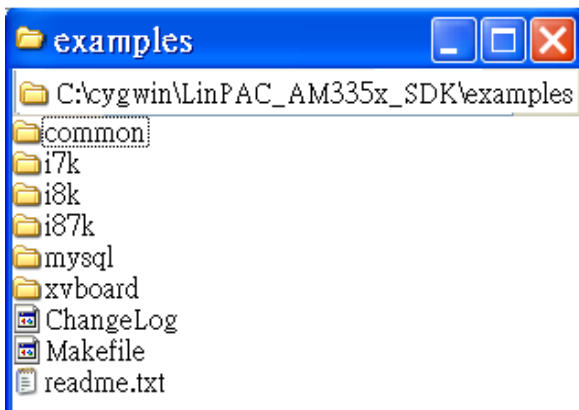
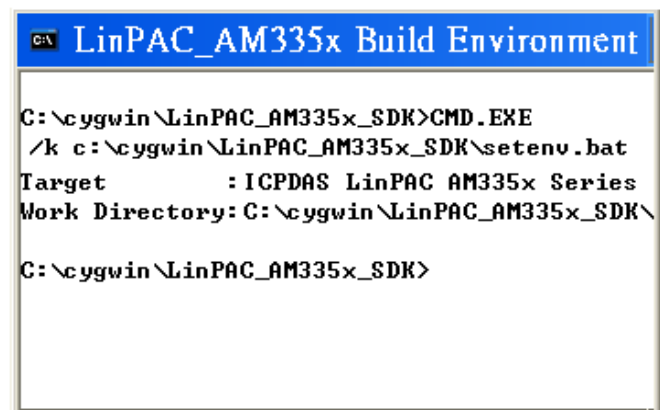

Fig. 3-15
Fig. 3-16
8. From the desktop, double-click the shortcut icon for the “**LinPAC AM335x Build Environment**” or click the “**Start**” > “**Programs**” > “**ICPDAS**” > “**LinPAC AM335x SDK**” > “**LinPAC AM335x Build Environment**”. A Command Prompt window will then be displayed that allows applications for the LP-52xx to be compiled. Refer to Fig. 3-15 and Fig 3-16.